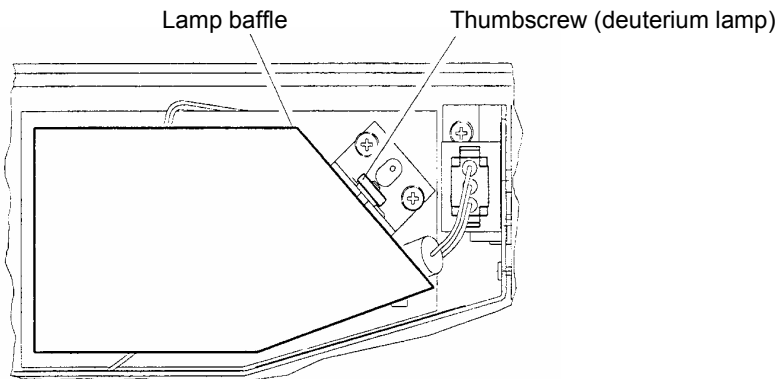

Figure 33 Removing the lamp baffle
3. Remove the lamp baffle by slackening the thumbscrew for the deuterium lamp and lifting the lamp baffle vertically upward, as shown in Figure 33.